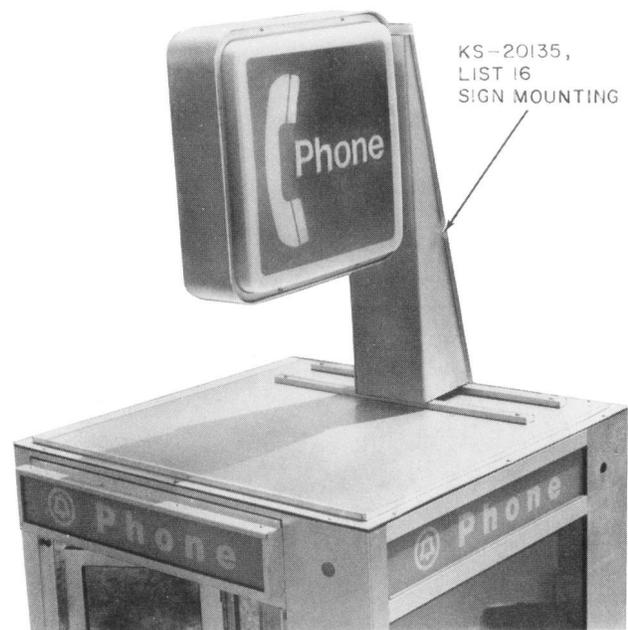
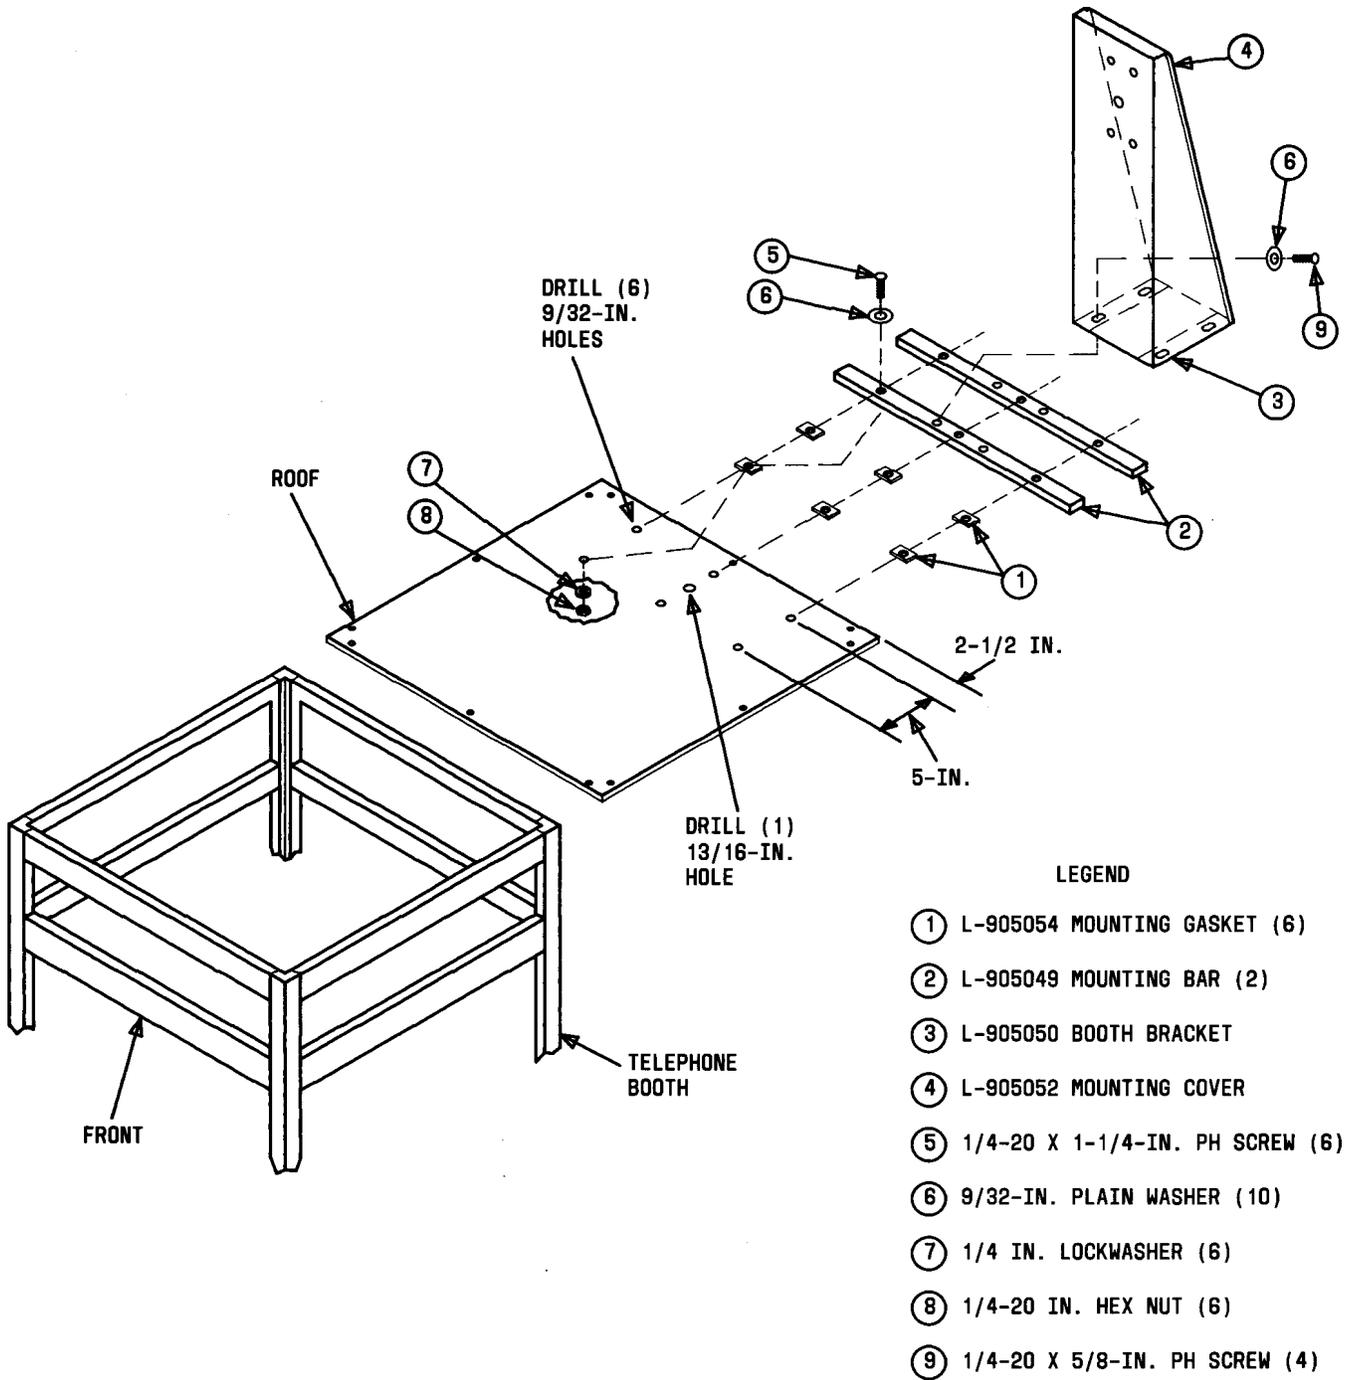

Fig. 31—KS-20135, List 1 Sign Installed on Top of Telephone Booth
Fig. 32—Installing KS-20135, List 16 Sign Mounting
**3.21** Install a List 1 (Fig. 31), 11, or 101 sign on top of telephone booth (Fig. 32 and 33) as follows:
- (b) Locate one of the mounting bars (item 2) 2-1/2 inches (center of mounting holes) from the back edge of the roof and place the other mounting bar 5-inches away (center of mounting holes) from the first bar. Center the two bars between the